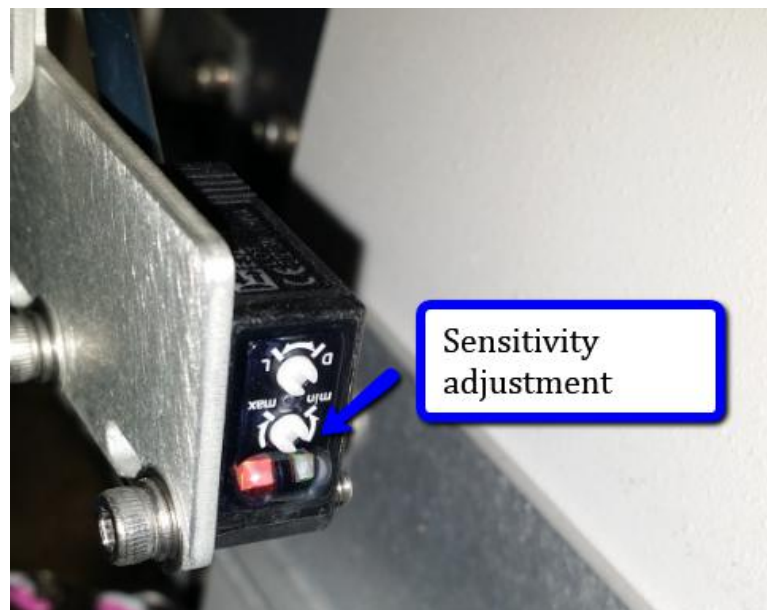
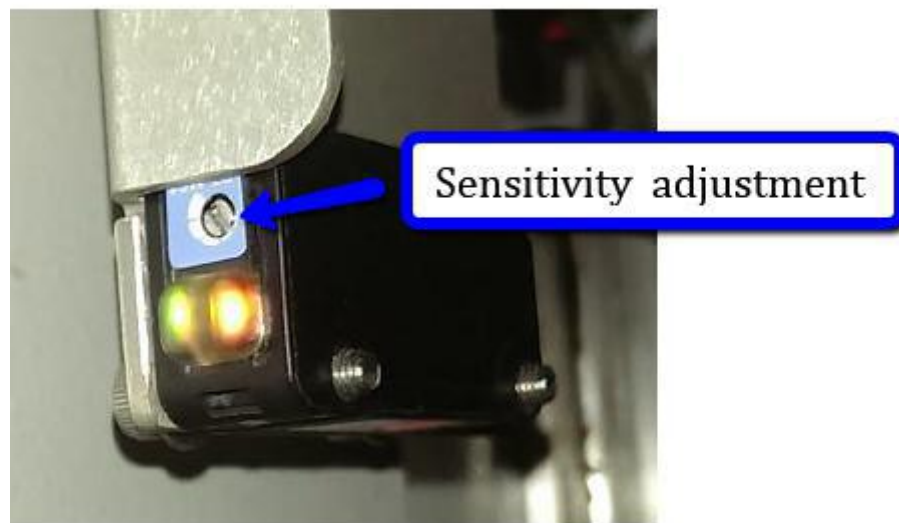

Figure 8 Omron Type PCL Sensor (Sensitivity)
Figure 9 Keyence Type PCL Sensor (Sensitivity)
11. If panel clear sensor status does not meet above requirement, sensitivity adjustment (Figure 8 Or Figure 9) will be required to perform where based on above Table 1.